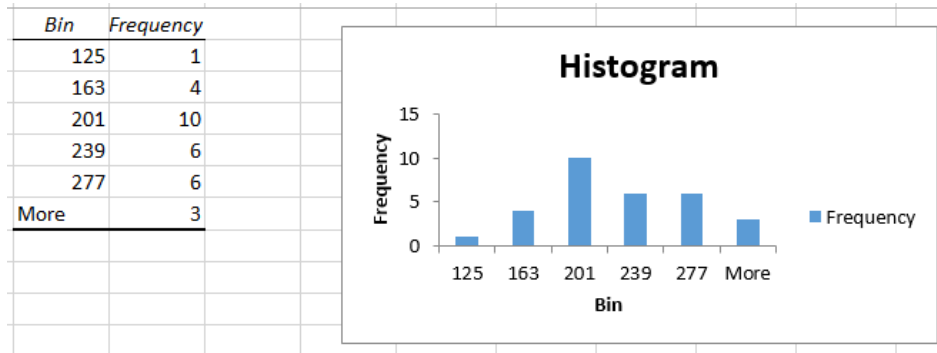

Figure 6: Histogram
Step 5: We are not satisfied with the Histogram drawn in Figure 6, thus we will do more editing.